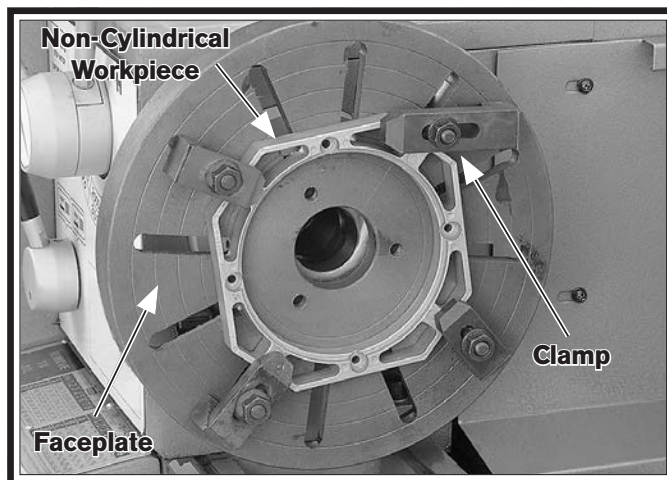

Figure 30. Example photo of workpiece clamped in a faceplate.
3. With help from another person or a holding device to support the workpiece, position it onto the faceplate and clamp it in place with a minimum of three independent clamping devices (see **Figure 30** for an example).